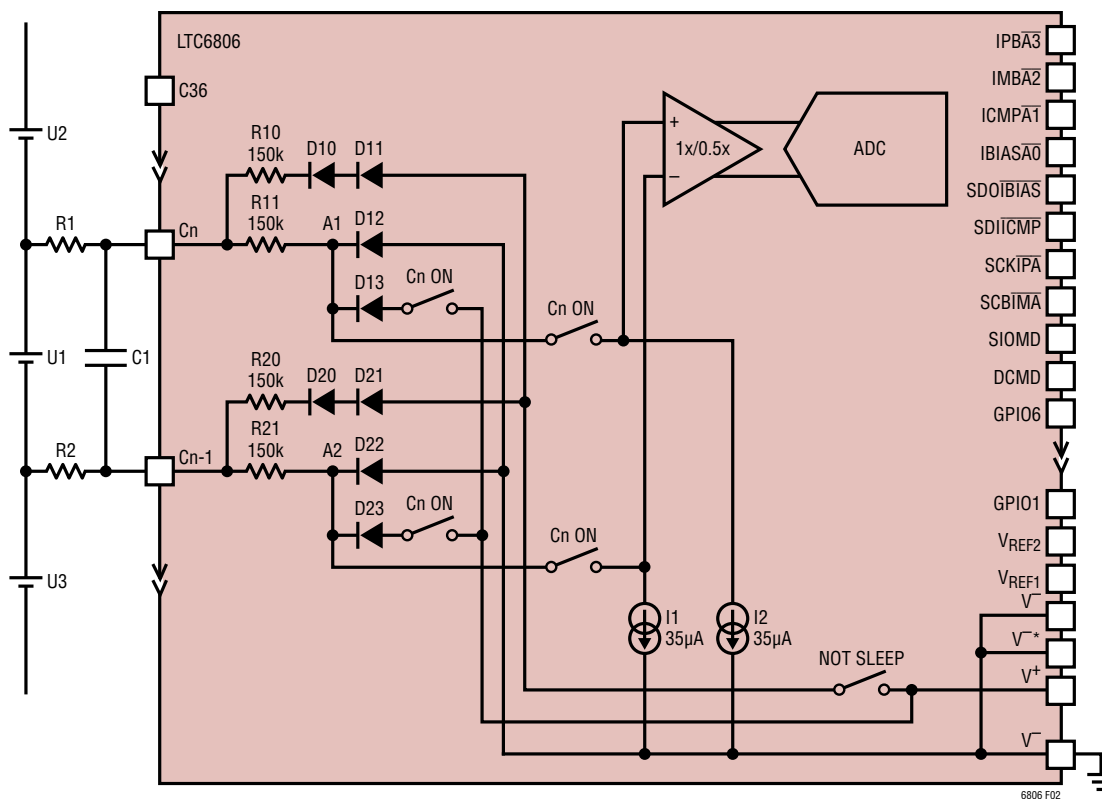

Figure 2. Input Stage Conceptual Block Diagram
The input stage of the LTC6806 consists of a common-gate stage with 150kΩ series resistance leading to the cell input pins. To accommodate negative common mode measurement, various clamp circuits are implemented at the front end, as shown in Figure 2.
1. When a cell is being measured, all switches in Figure 2 are closed. If the cell common mode voltage is above V^+ , all diodes are reverse biased and the cell input sinks approximately 35μA bias current. If the cell common